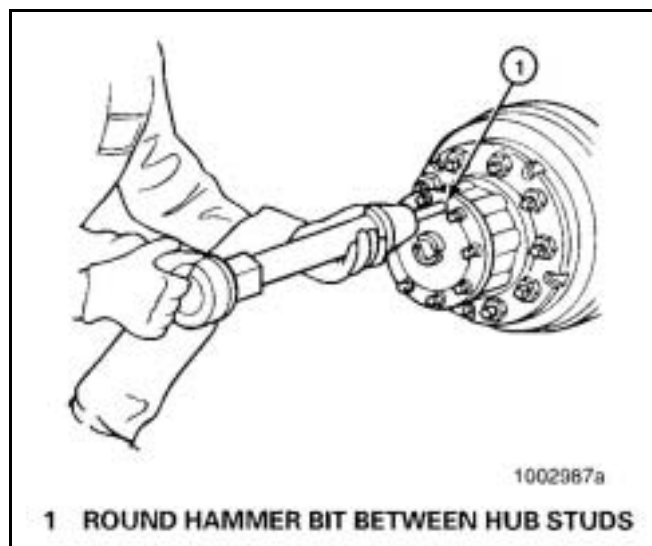

Figure 6
2. Place the round hammer bit against the axle shaft (flange) between the hub studs. Operate the air hammer at alternate locations between the studs to loosen the tapered dowels and axle shaft from the hub. **Figure 6.**